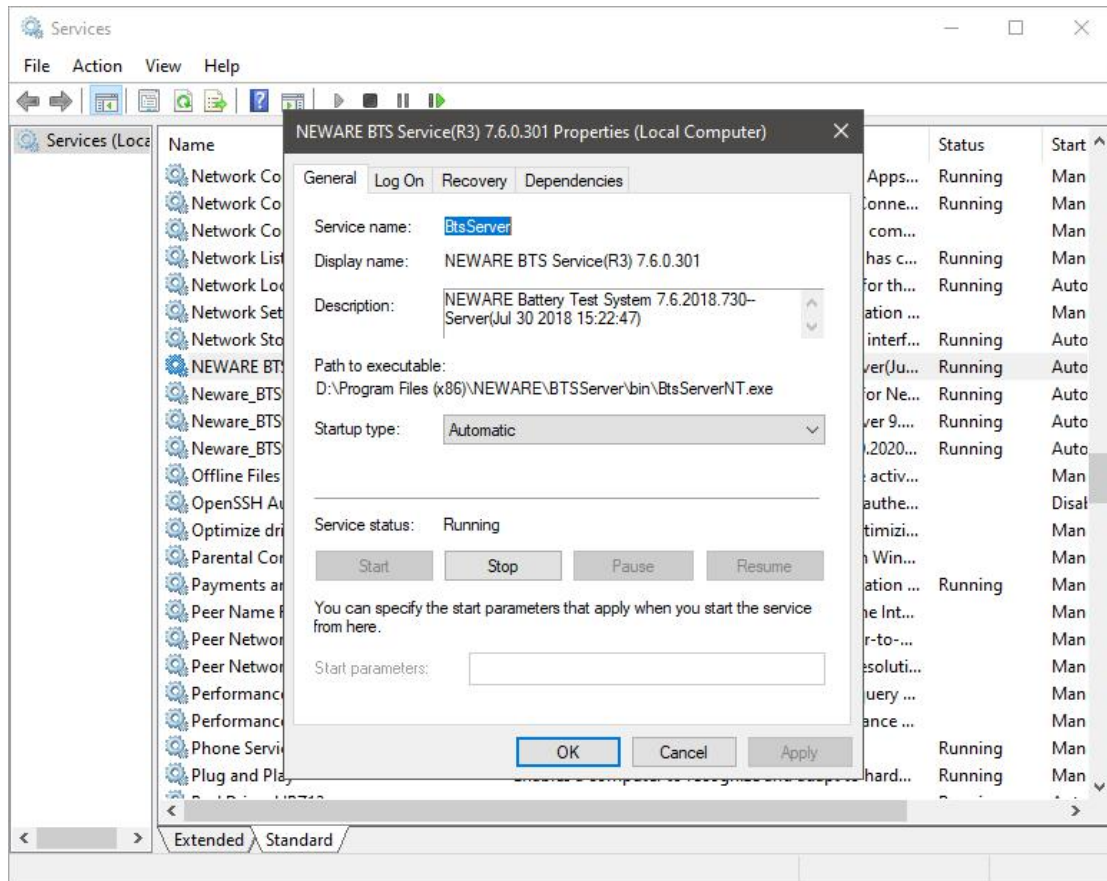

Figure 3.4.3 NEWARE BTS Service start window
- Start type: choose “Auto” (Shown in the figure 3.4.3)